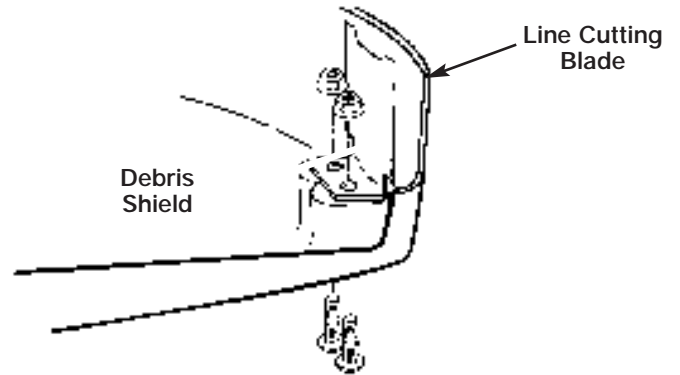

Fig. 27
1. Remove the line cutting blade from the debris shield (Fig. 27).